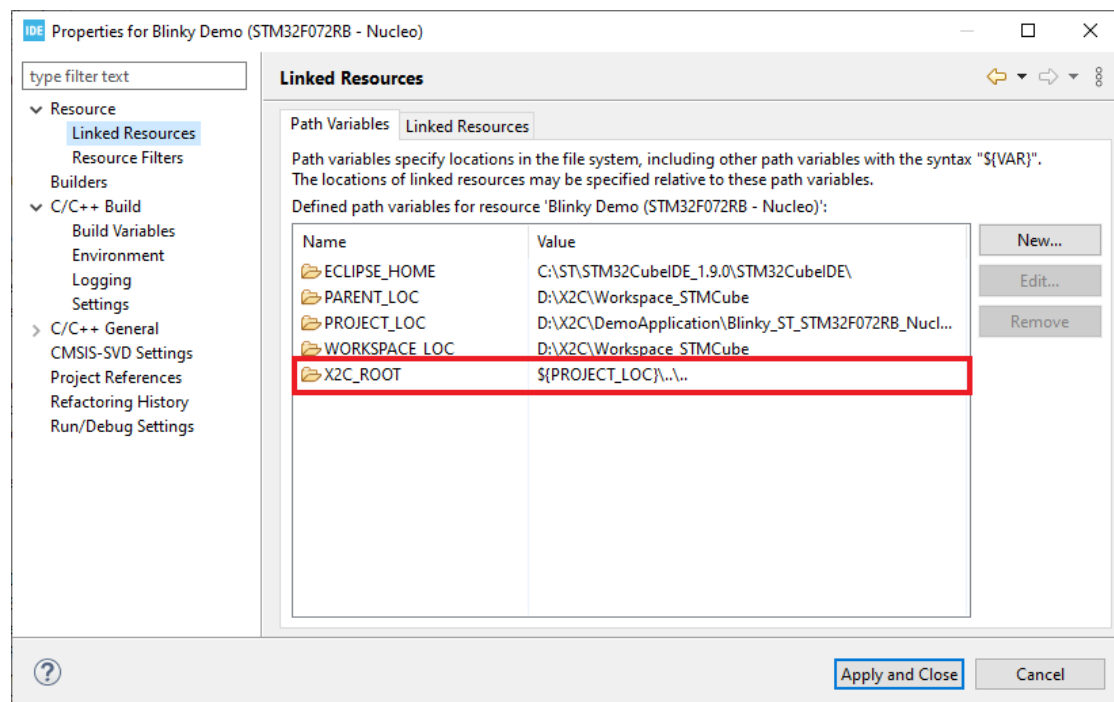
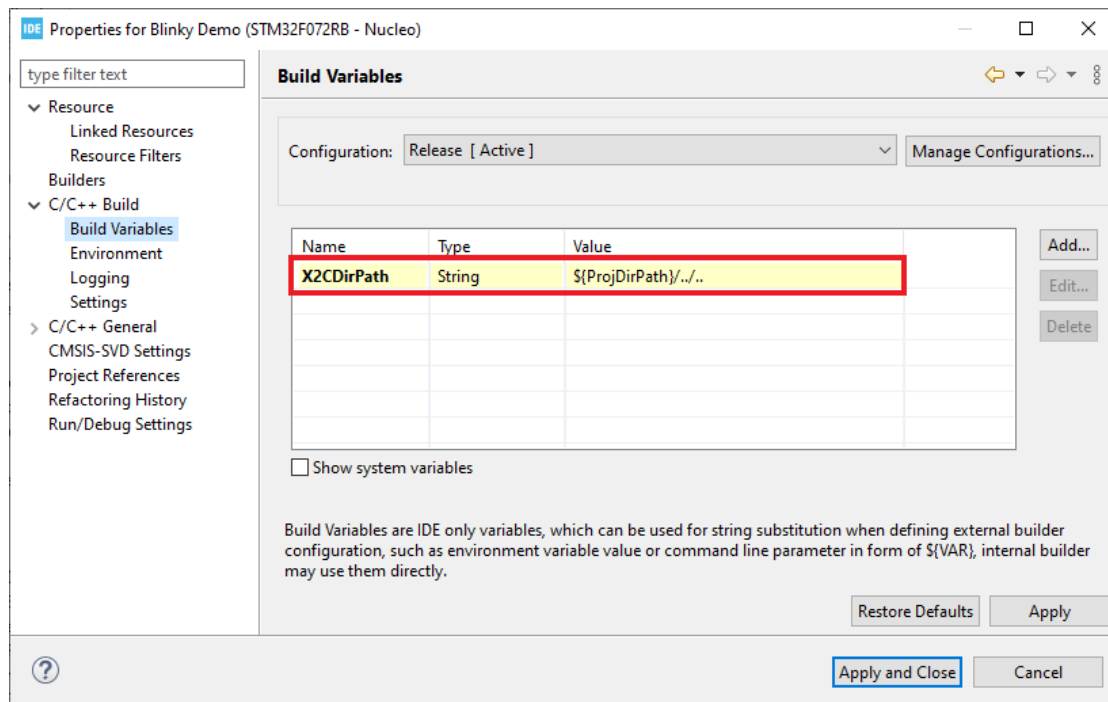

Figure 31: *STM32CubeIDE* resources settings
Figure 32: STM32CubeIDE build variables setting
3. In the *STM32CubeIDE* file structure of the *Blinky* demo project are two virtual folders *X2C-Blocks* and *X2C-Core*, which are linked relatively to the *X2C* directory. If the *Blinky* demo project is copied/moved to a different location, the resource property *X2C_ROOT* as seen in Figure 31 and the build variable *X2CDirPath* as seen in Figure 32 have to be adapted.